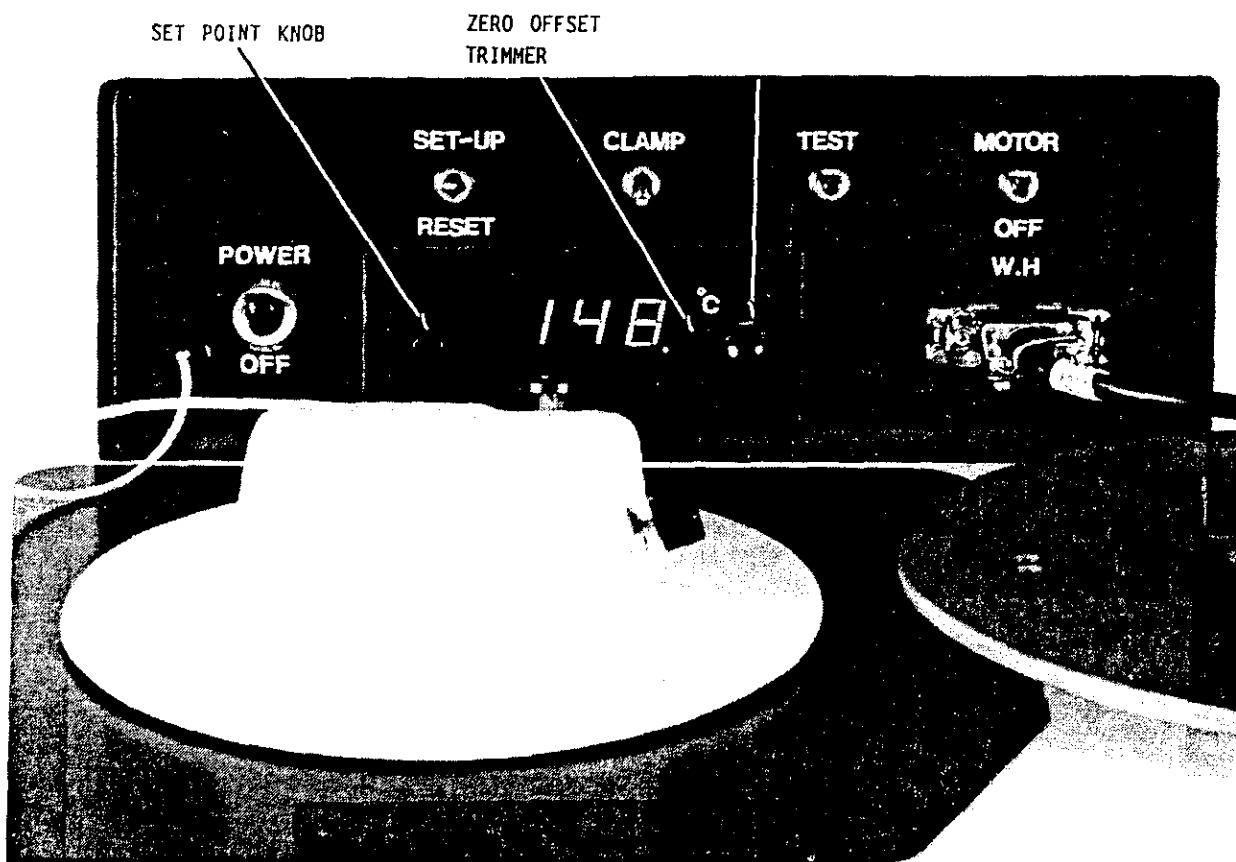

Figure 3-1 Left Control Panel
The Left Control Panel, located on the left side of the Base, contains the following controls (see Figure 3-1):
- Step 1 Press and hold the **DISPLAY SELECT** pushbutton on the Left Control Panel (see Figure 3-1). This sets the Digital Display to show the temperature to which the Temperature Control is set.